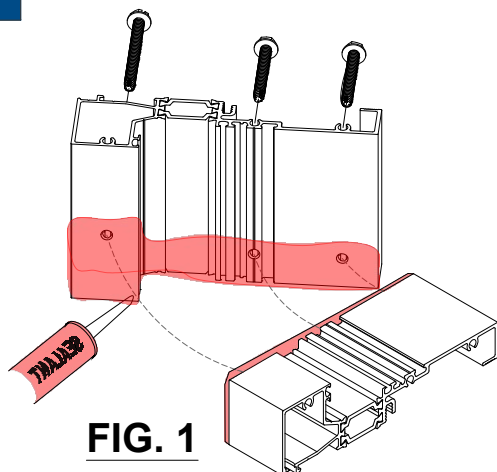

FIG. 1
- b. Apply sealant to the both ends of the profile. **See FIG 1.**